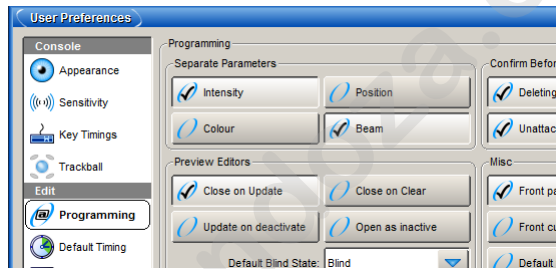

Figure 15.13. The Programming pane of the User Preferences window
2. Toggle separating parameters on and off by pressing the parameter type buttons; see Figure 15.13, “The Programming pane of the User Preferences window”.